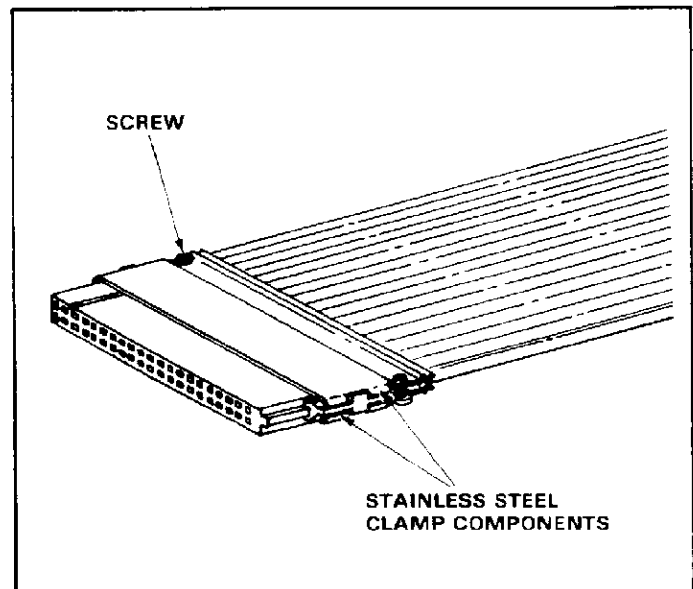

Fig. 8
B. Stainless Steel Clamp (Figure 8)